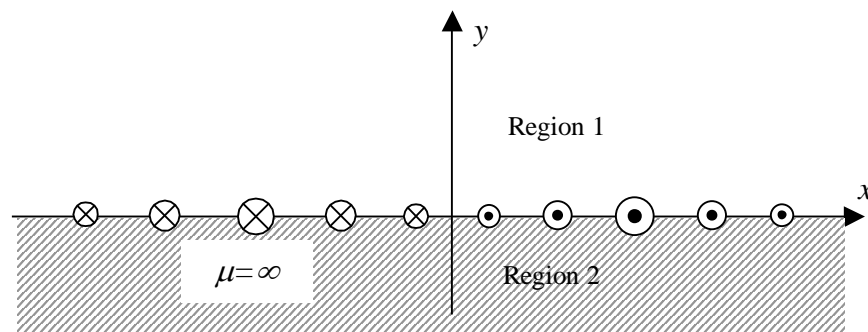

Figure 3 Two-dimensional representation of a current sheet on an infinitely permeable thick plate
- c. Figure 3 shows a region of space which has a magnetic permeability μ_0 above a thick plate of material which can be reasonably considered as having infinite magnetic permeability. There is an arrangement of coils on the surface of the plate which can be approximated by an infinitely thin current sheet at the surface of the plate. The variation in the magnitude of the surface current in the current sheet as a function of distance along the x-axis, x , is given by: